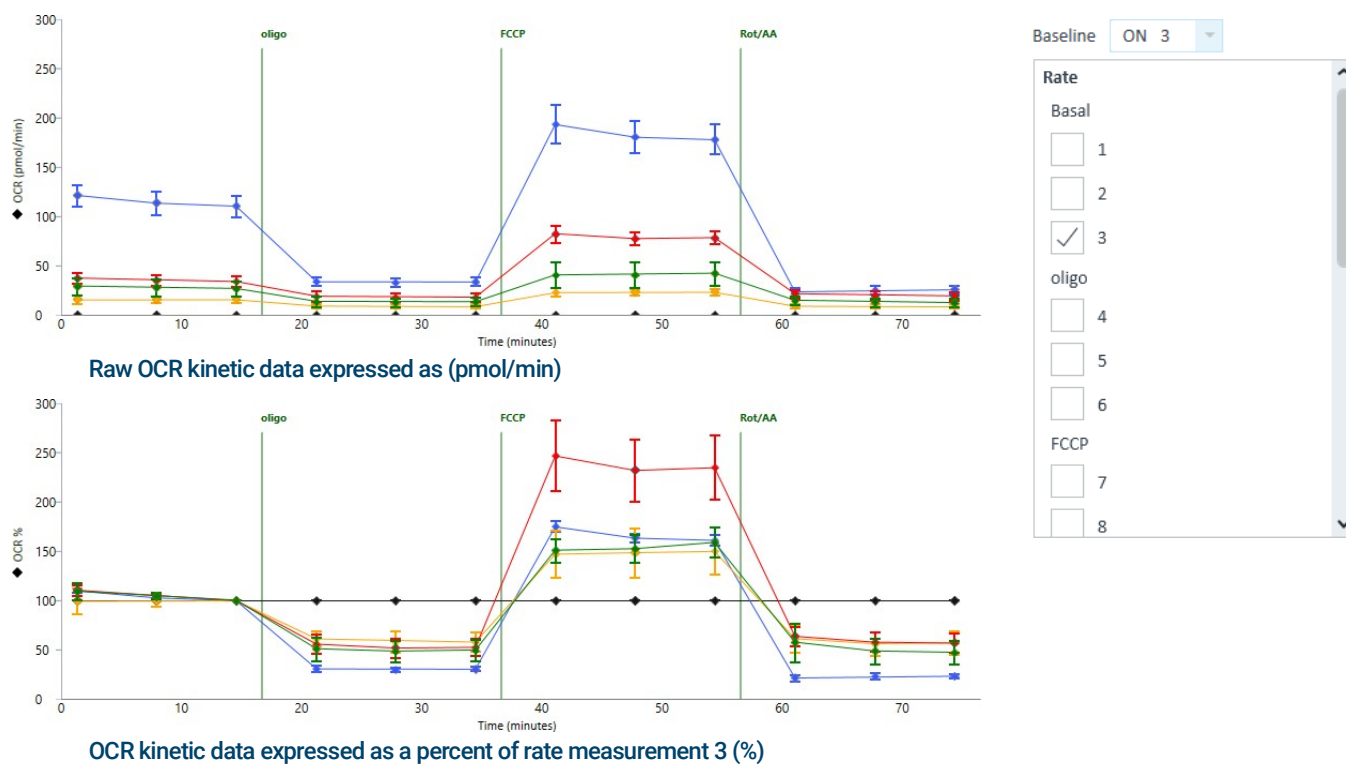

Figure 117. Baseline to a rate measurement
You may choose to display rate data as a percent of (1) a selected rate measurement or (2) a percent of a control group in Wave Pro. The Baseline function available on the Overview and OCR vs. ECAR analysis views provide this functionality. To express kinetic data as a percent of a selected rate measurement for all groups, use the **Baseline** drop-down menu and select a **Rate** measurement. (See Figure 117.)